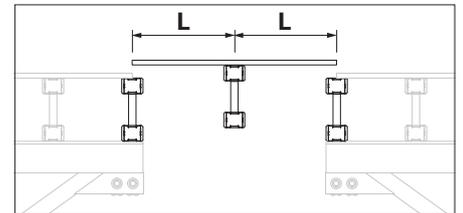

Fig. A4.04.2
For larger compensations with plywood sheeting (14) which rests on both tables and is additionally supported by a GT 24 girder positioned in the centre. (Fig. A4.04.2)